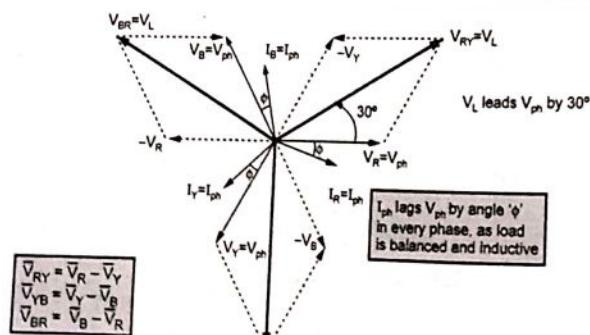

Fig. 4.9.3 Star and lagging p.f. load
- The complete phasor diagram for lagging power factor load is shown in the Fig. 4.9.3.